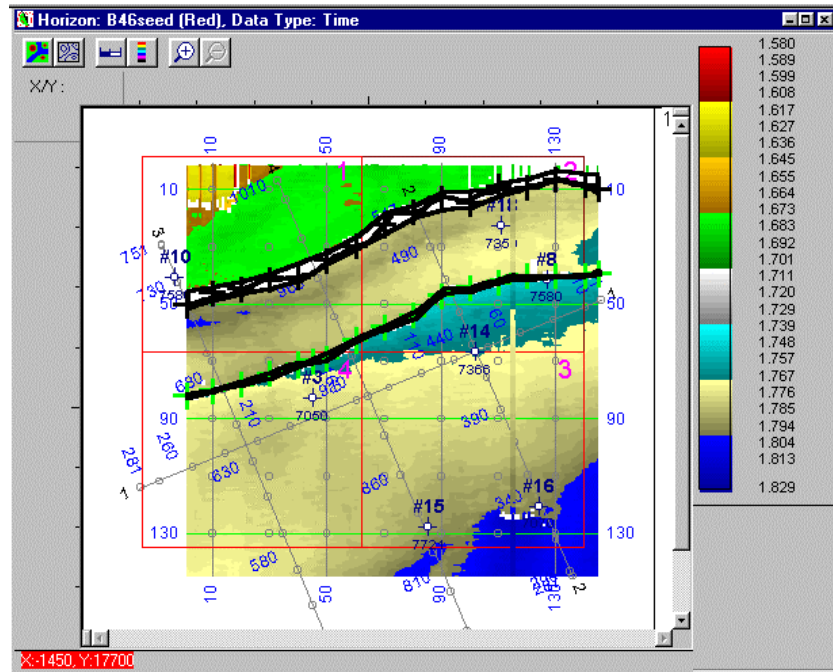
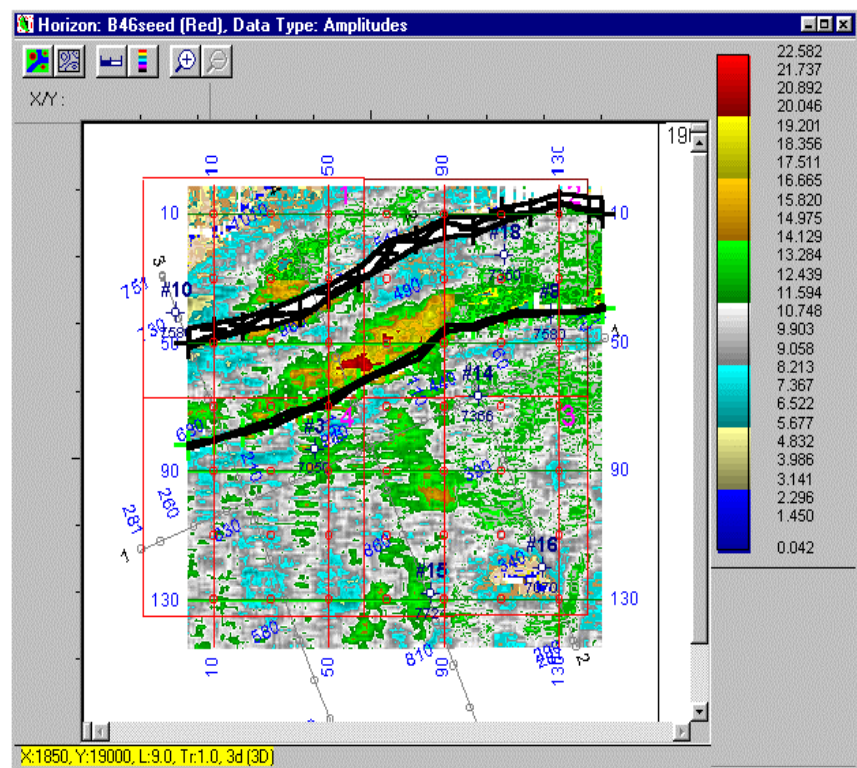
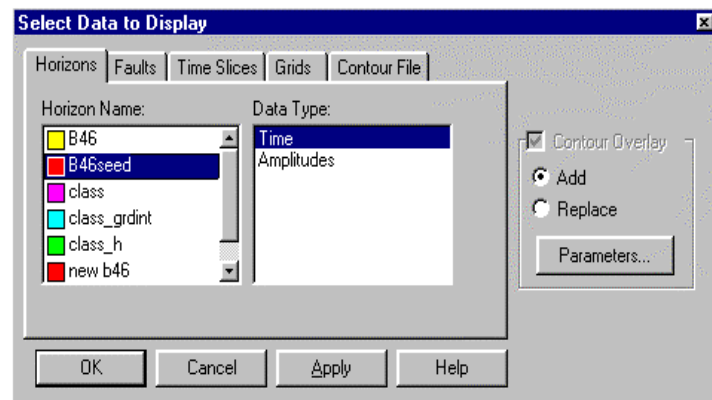

Figure 13: Two-way travel time map to top of the B46 reflector generated from interpretation and automatic computer interpolation between picks.
Figure 14: Horizon amplitudes for B46Seed.
Figure 15: Contour overlay horizon selection menu. Not Parameter Button.
Your completed horizon interpretation will look something like the one shown below (Figure 13).
37. Once the map is completed, **display the amplitudes**. Go to the *Project Tree* and left click on the '+' sign next to the B46 horizon line. This opens the horizon showing you the additional surfaces available (Figure 14). Drag the amplitudes from the *Project Tree* to the map window.
Figure 14: View of Project Tree window, Clicking the + sign at left on an individual window opens a drop down list of other data available for that horizon. In this case displays of amplitude and time are listed.
Dragging the amplitudes from the Project Tree list to the base map will cause reflection event amplitude to be displayed. Remember we undertook autopicking on B46seed(Red) (Figure 14). If you drag amplitudes from B46(Yellow) you will see amplitudes displayed only along interpreted lines in the grid. Horizon travel times are shown in Figure 13, Horizon amplitudes are shown below (Figure 15).
38. Generate a **time-structure contour map** by selecting *Map* and *Select Contour Overlay*. Select the horizon and data type (Time). Click on OK. If you would like to change contour line parameters click on Parameters to the right in the Horizon window (Figure 15).